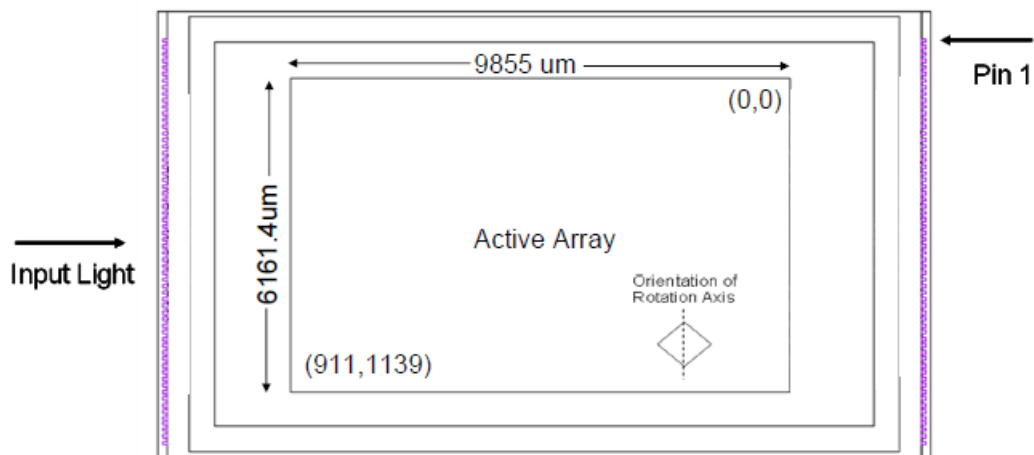

Figure 5. DLP4500NIR Micromirror Active Area
- (1) See Micromirror Array, Pitch, and Hinge-Axis Orientation.
- (2) See Micromirror Active Area in Figure 5.
- (3) The mirrors that form the array border are hard-wired to tilt in the -12° ("Off") direction once power is applied to the DMD (see Micromirror Array, Pitch, and Hinge-Axis Orientation and Micromirror Landed Positions and Light Paths).